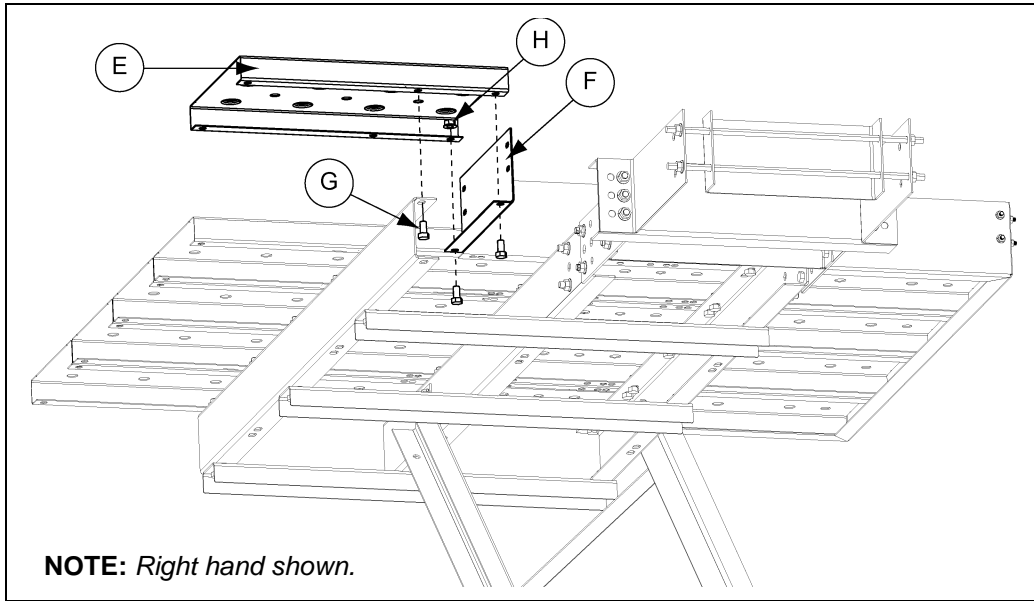

Figure 10I
4. Align flange of end toe board along the bottom of decking. Connect end toe board to decking using 1/2" x 1" bolts and nuts. *(See Figure 10I on Page 82.)*